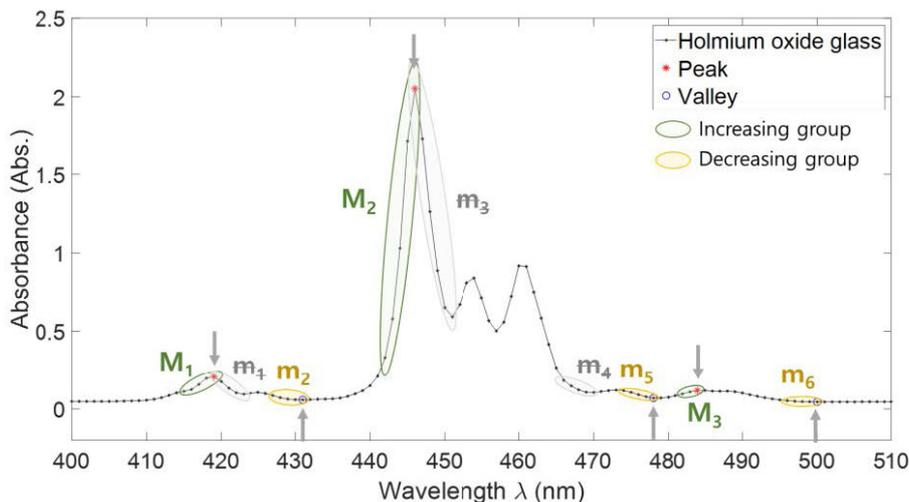

Fig 2. Peak detection from Holmium oxide glass spectrum when  $N = 5$
b) The algorithm starts scanning the data from short wavelength to long wavelength comparing their values. In this case,  $N$  consecutively increasing (or decreasing) data points are scanned and classified as an increasing (or decreasing) group (G) as follows (see Fig. 2).
c) List each group in order (as shown in Fig. 2).